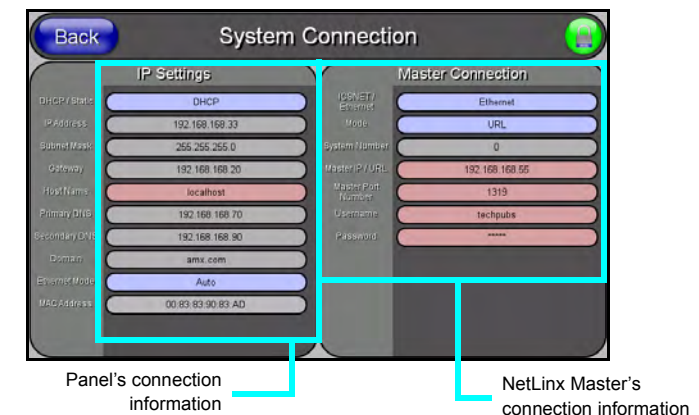

FIG. 7 Sample System Connection page
- Press the **System Connection** button to open the System Connection page (FIG. 7).